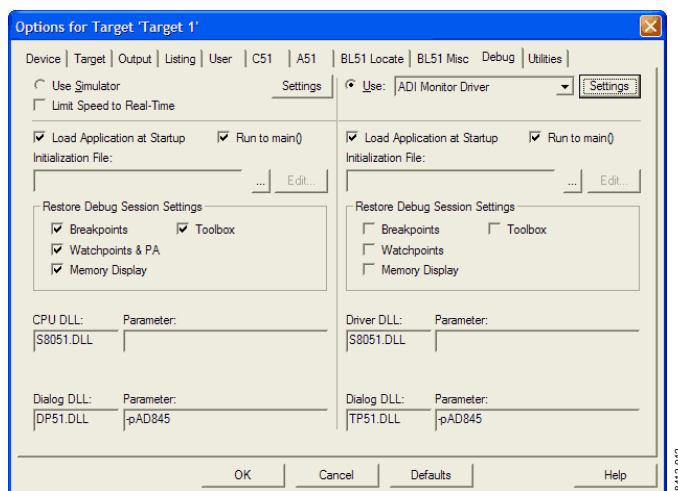
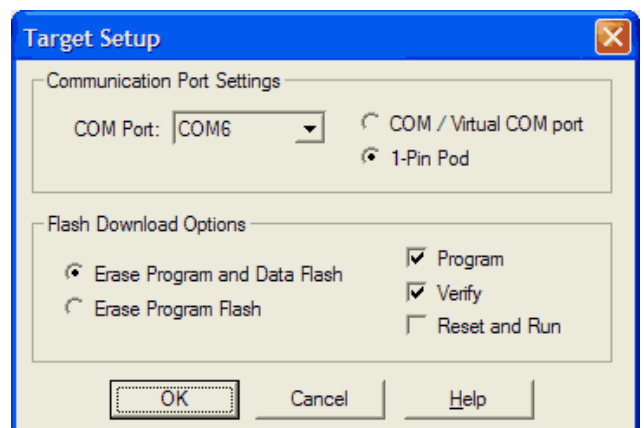

Figure 12. Options for Target Window
Figure 13. Target Setup Window
3. Make the selections as shown on the right side of Figure 12, making sure to select the **ADI Monitor Driver**.
4. Click **Settings** at the top right (see Figure 12) and then select **1-Pin Pod** and the COM port assigned to the emulator, as shown in Figure 13. Use the **Device Manager** to identify the appropriate COM port.